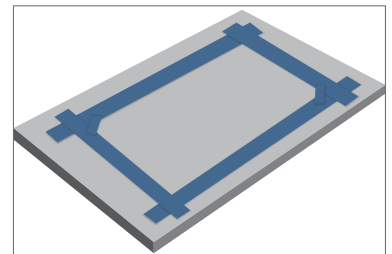

Fig. 3
- Apply masking or painters tape to benchtop where the appliance is to be positioned. (see Fig. 3)